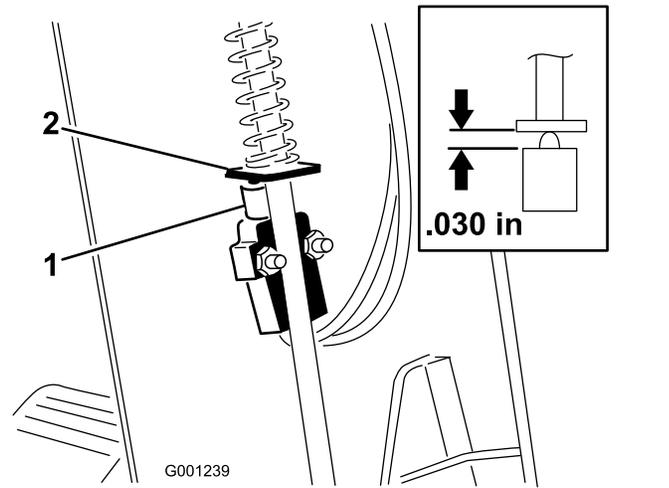

Figure 74
3. Slide the cover up the steering shaft to expose the parking brake switch (Figure 74).
5. Align the paddle of the parking brake rod with the switch plunger (Figure 74)
6. Press down on the parking-brake rod and push up the switch until the compressed length of the switch plunger is 0.7 mm (0.030 inches); refer to Figure 74.